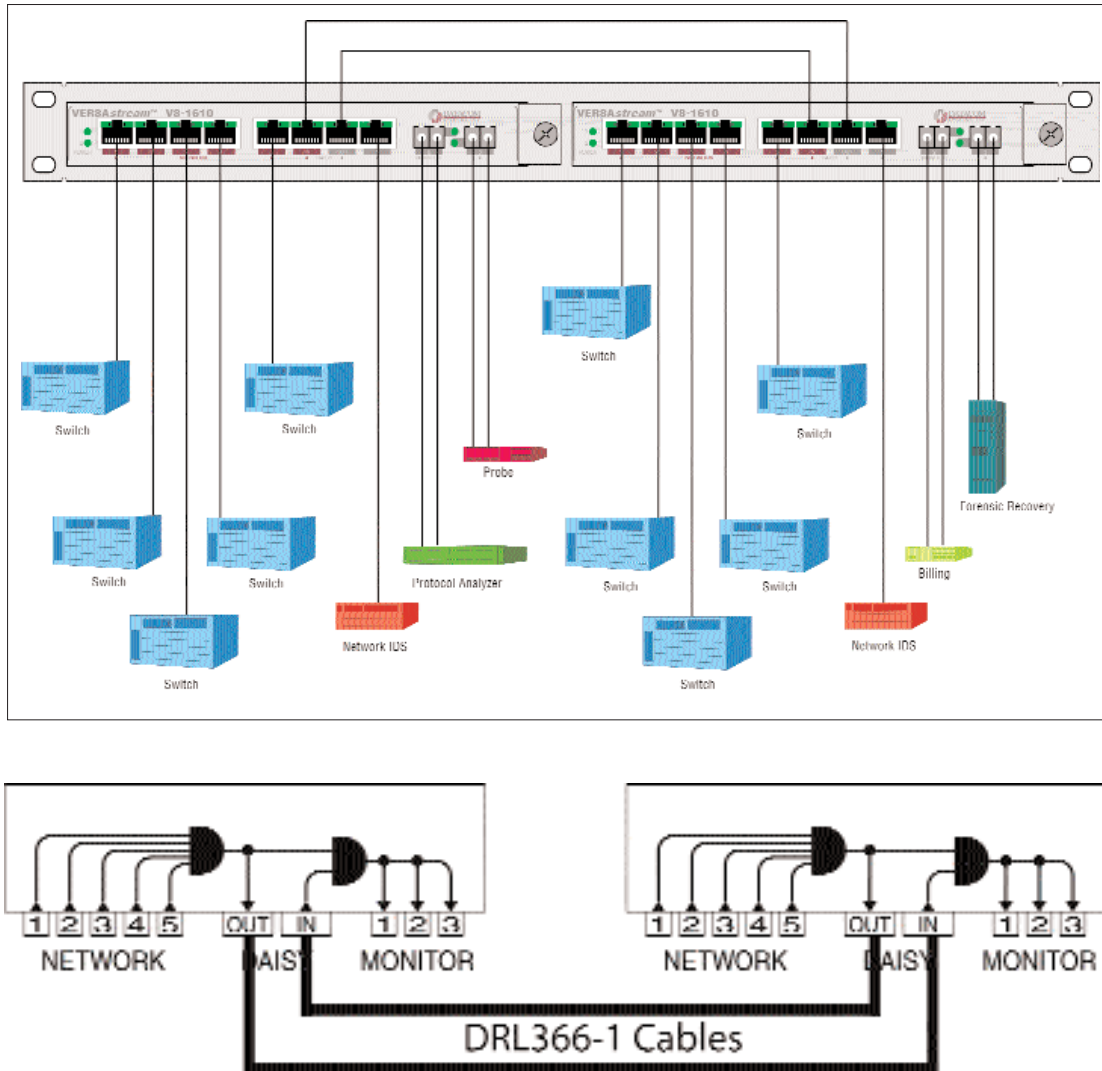

Figure 26 - VS1610 kit Typical Application and functional diagram
**VS-1610 kit Application** — shown in **Figure 26**, focuses on a typical VERSAstream™ VS1610 kit (Two VS-1610s mounted in RMC-2 Rack Mount Chassis and daisy-chained together) Multi-Link Aggregator deployed. This VS-1610 kit is similar to the VS-1412 kit VERSAstream™ Multi-link series installation:
To connect the VERSAstream™ VS1610 kit Multi-link Series aggregator/regenerator, refer to **Figure 26** and follow these steps: